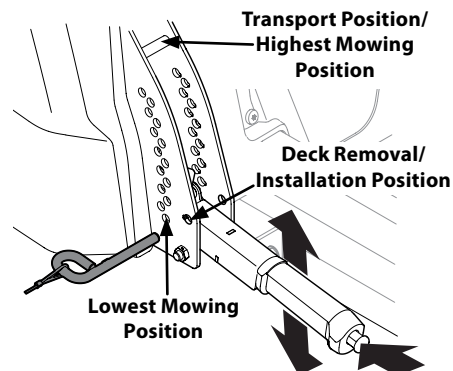

Figure 4-11
- Using the deck lift handle, raise the deck to the position that provides the most horizontal run of the belt between the deck idler pulleys and the PTO pulley on the bottom of the engine. See Figure 4-11.
- d. Lower the deck into the deck removal/ installation position  using the deck lift handle. See Figure 4-11.
- e. Lower the deck into the deck removal/ installation position  using the deck lift handle. See Figure 4-11.
1. Place the deck lift handle in the highest mowing position See Figure 4-11.